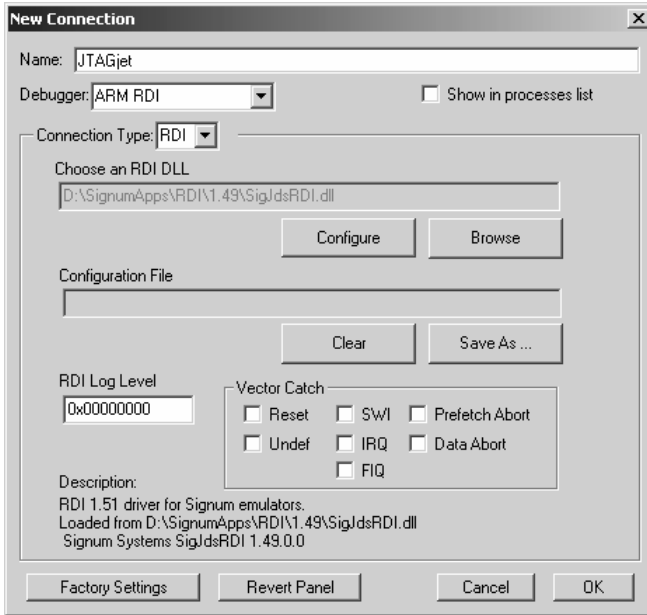

FIGURE 21 The IDE New Connection dialog box.
2. In the New Connection dialog box (Figure 21):